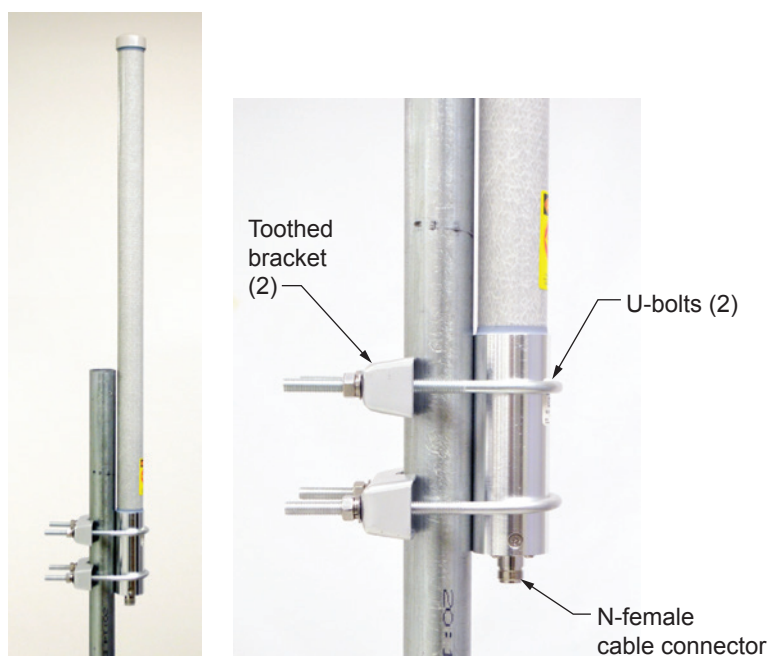

Figure 2.8—Standard pole mount bracket (fits poles with an outside diameter of 2 inches or less)
- **Direct-mount to an orifice or cone type DP meter.** The integral multi-variable sensor may be connected to the pressure taps with stabilizers or a heavy wall nipple with adapter flanges, and a 5-valve manifold (Figure 2.8, page 34). A bottom-port MVT is recommended for gas measurement; a side-mount MVT is recommended for liquid or steam measurement. An optional four-port MVT is available for installations requiring additional conduit entries (not suitable for ATEX-approved devices).
To install the antenna, reference Figure 2.8 while following the instructions below: